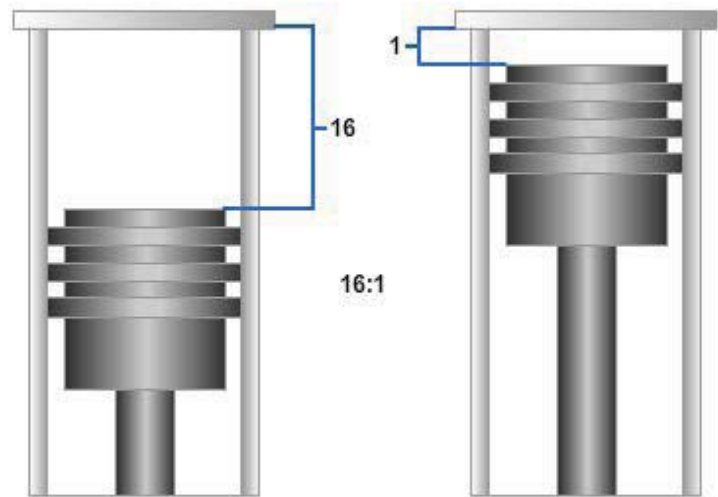

Figure 4-14 - Compression ration.
- **Compression ignition (CI)** is commonly used to describe any diesel engine or one in which the cylinder fuel air charge is ignited by the heat of compression. The elimination of spark plugs, coils, ignition wiring, distributors, and transistorized ignition controls is a major factor in the diesel's simplicity and lower cost of maintenance.
- **Compression ratio** is a comparison of the volume of air in a cylinder before compression with its volume after compression. A 16:1 compression ratio means that at the top of the compression stroke, the air in the cylinder takes up 1/16 the volume it did when the piston was at the bottom of the compression stroke. The compression ratios in a diesel engine are high. The compression ratio is determined by comparing the amount of space in the cylinder when the piston is at the top of its travel to the space available when the piston is at its lowest point of travel (*Figure 4-14*).